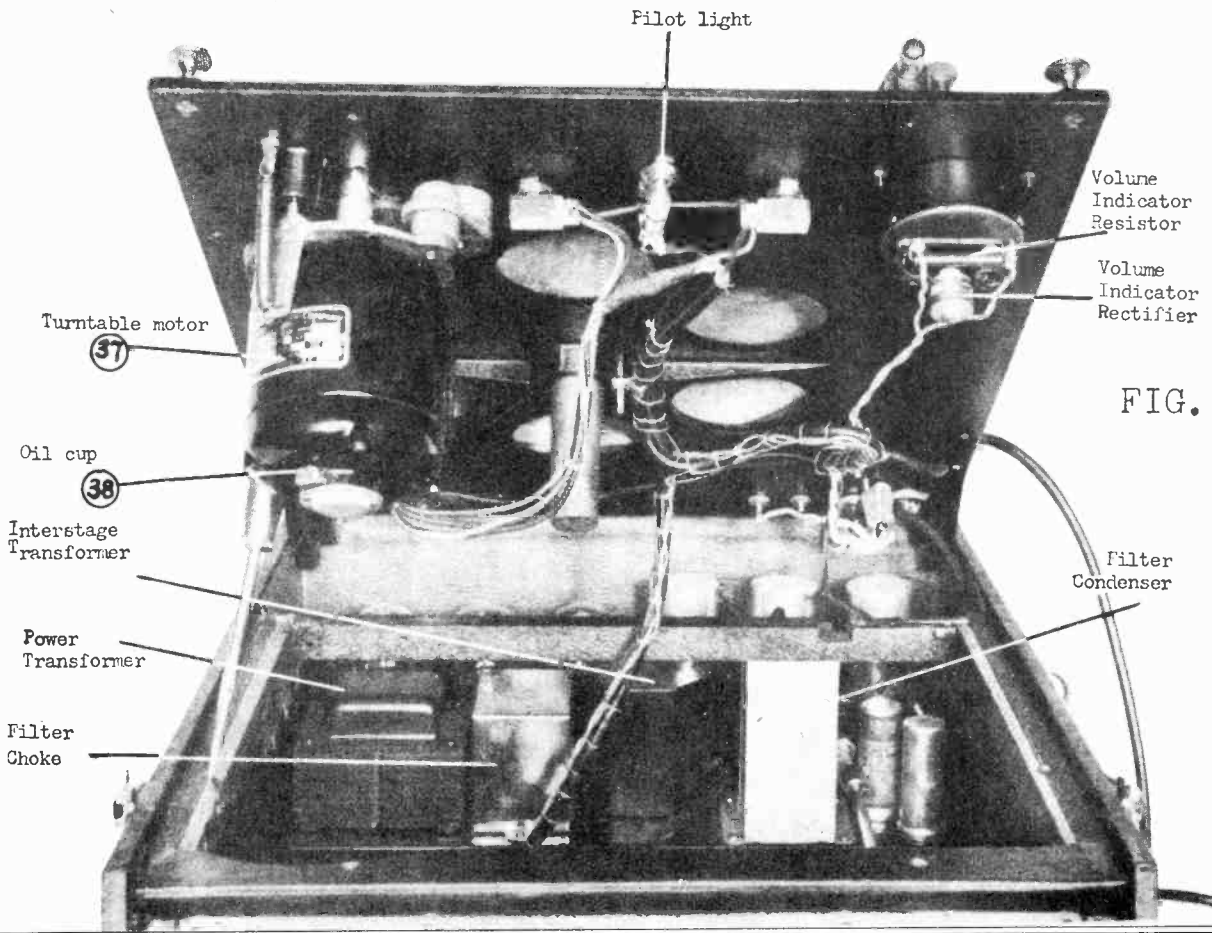

FIG. 9
2. Lubrication of the idler shaft (34) is very essential, it should be done daily, if the machine is used a good deal. "3 in 1" oil is advisable. One drop of oil in the center hole of the idler shaft (34) is sufficient. Be sure that the oil does not get on the idler. Always wipe clean as this might cause loss of friction.
3. The motor need not be oiled more than once in 3 months and then with the same quality of "3 in 1" oil as used on the idler shaft (34). It is advisable not to oil the motor too much. Too frequent oiling might cause defects in the winding of the motor. When oiling the motor, the entire panel mounting must be raised as shown in Fig. 9. The oil cups (38) are shown; one at the bottom and one at the top.